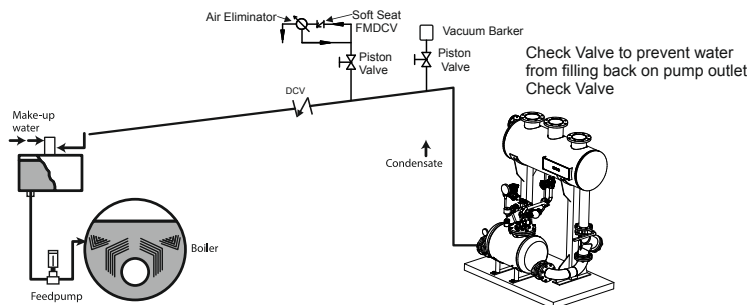

Figure 5: Routing the condensate line to the Feed Water Tank
5.1 Care to be taken while routing the condensate pump discharge line: (Refer to Fig. 5)